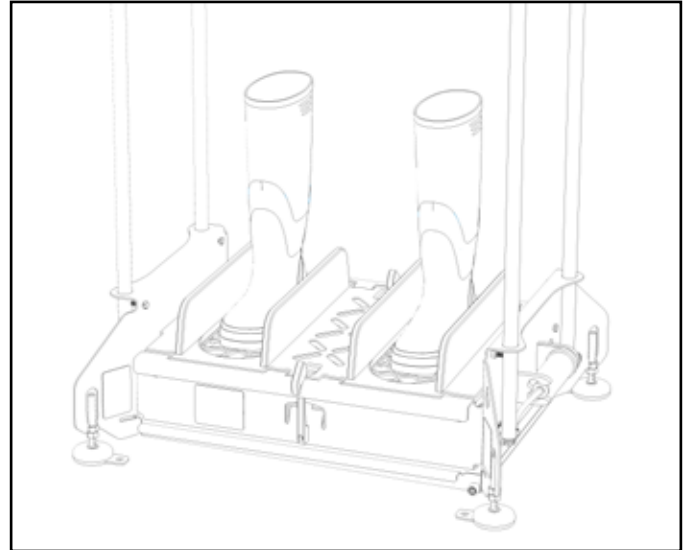

Fig. 8.1: Foot/Boot position for unit operation
3. Position feet within base plate outlines, centering each foot above its nozzle system [Figure 8.1].